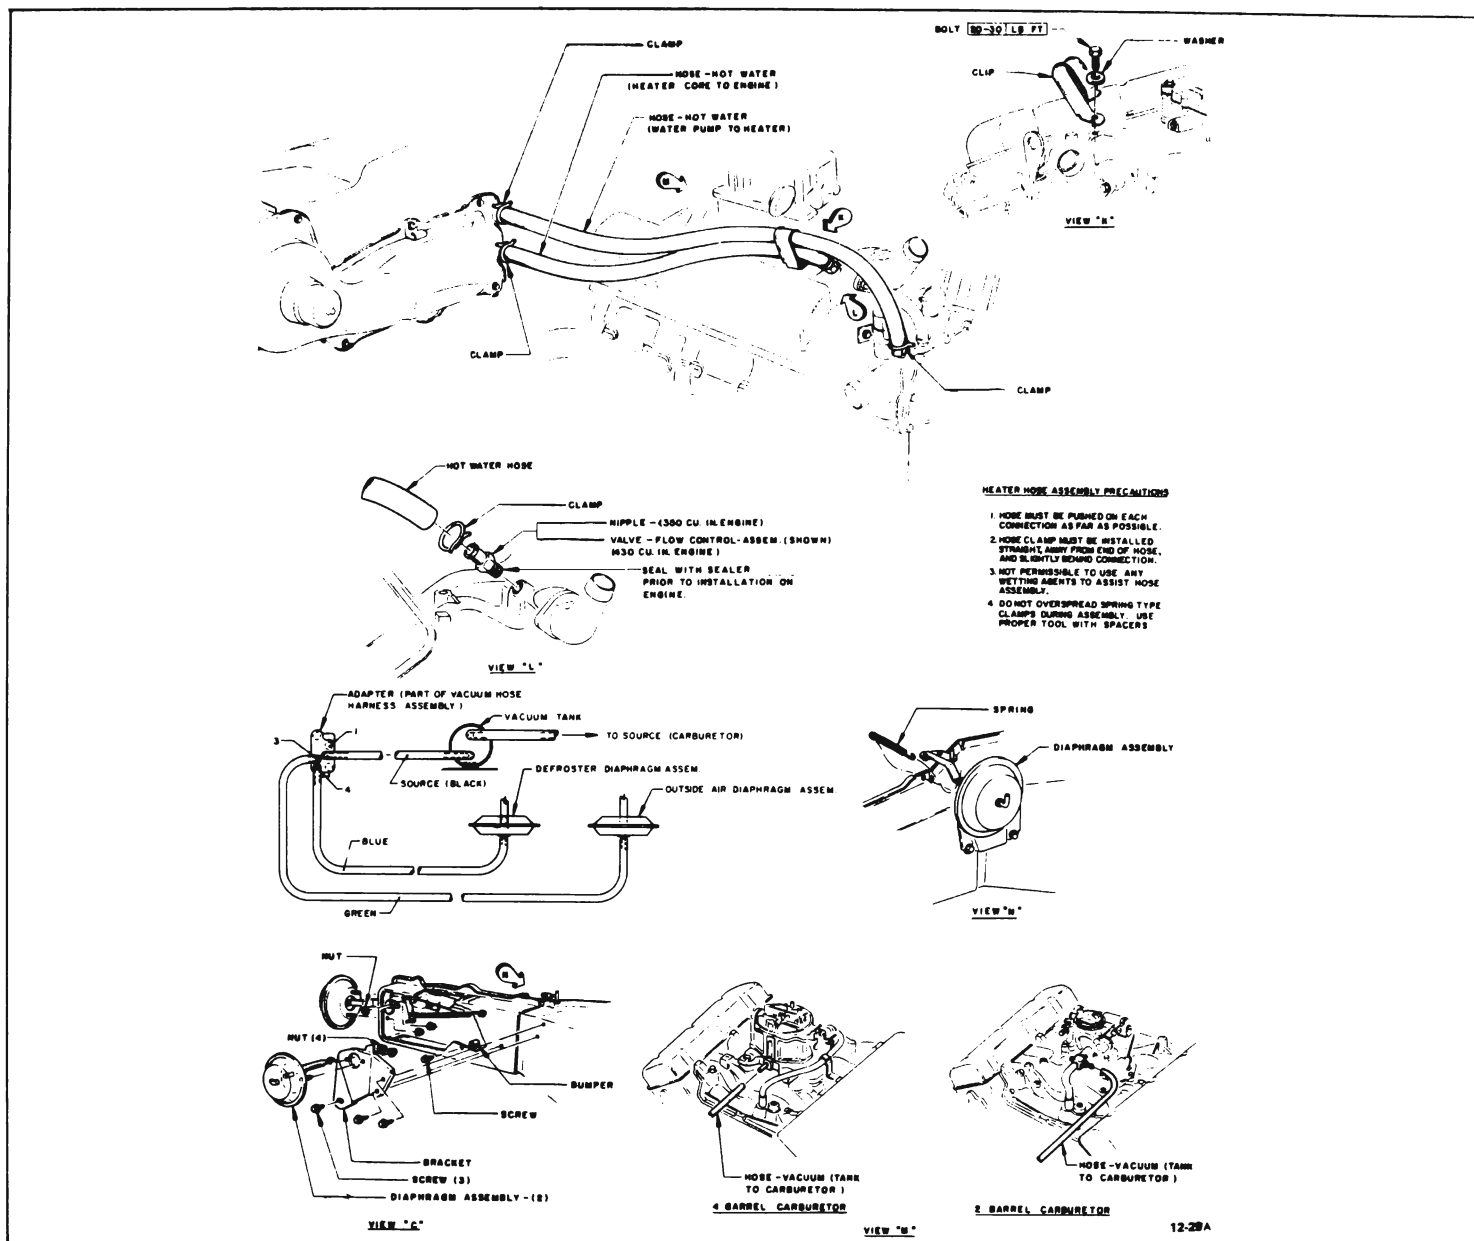

Figure 12-14 Heater Hose Installation
The heater core, located in the heater assembly, has water flowing through it at all times. The water flow begins at the front of the intake manifold and flows to the lower (inlet) port of the heater core, thru the heater core, out the upper (outlet) port of the heater core and to the suction port of the water pump. See Figure 12-14.
1. Drain radiator and disconnect heater inlet and outlet hoses at dash. See Figure 12-14.